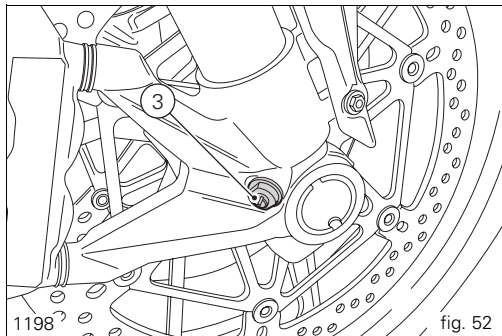
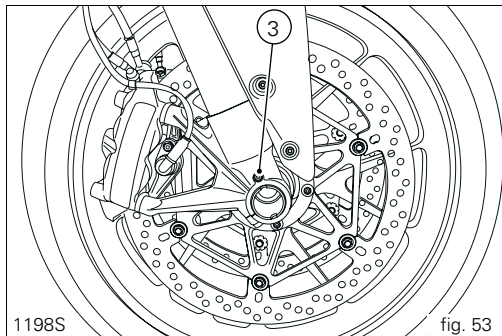

fig. 52
fig. 53
- 3) to adjust compression damping (fig. 52 and fig. 53).